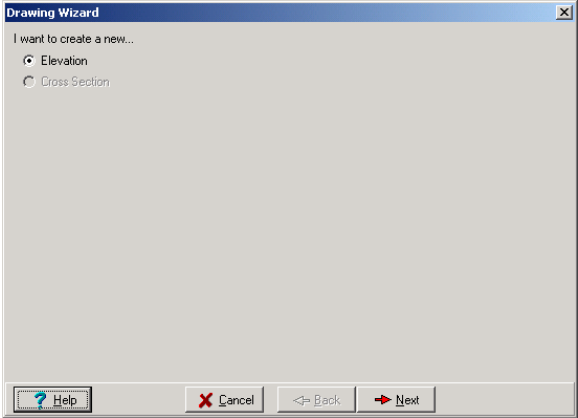

Figure 3
1. From the **Project Toolbar**, open the wizard by clicking on the  (New Elevation) image button. The following wizard page, shown in Figure 3, will appear.